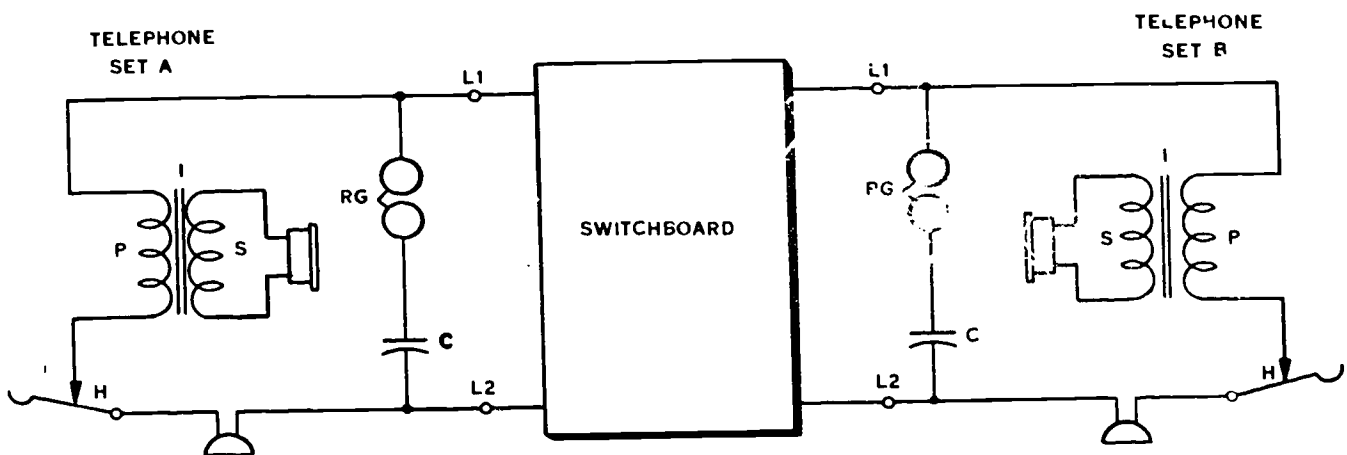

Figure 6-11. Basic circuit of common-battery telephone system.
Basic common-battery circuit. The basic circuit of a common-battery system is shown in figure 6-11. In this circuit, each telephone is equipped with an induction coil (I), a hookswitch (H), a capacitor (C), a ringer (RG), a transmitter, and a receiver. When the hookswitch is in the position shown, current flows from the switchboard battery through telephone line (L1), the primary winding of induction coil (I), the hookswitch, and the line L2 back to the switchboard battery. With the circuit in this condition, sound waves entering the transmitter varies the line current from the telephone to the central office. Furthermore, if the telephone sets are connected through the switchboard, the sound waves entering the transmitter of either telephone will be heard in the receiver of the other telephone set. The circuitry shown in figure 6-11 may be considered in three parts: the primary, or transmitter, circuit; the secondary, or receiver, circuit; and the ringing circuit.
b. Secondary circuit. As shown in figure 6-11, the secondary circuit consists of the receiver connected in series with the secondary winding of the induction coil. As was explained for the local-battery system, variable DC in the primary winding of the induction coil induces an alternating current in the secondary winding and receiver. Thus, when either transmitter is spoken into in the system shown in figure 6-11, the sound is heard in the receivers of both telephones. Of course, in modern telephone systems, antisidetone circuitry is used to control the level at which the speakers hear their own voices in the receiver.
c. Ringer circuit. In figure 6-11, notice that when the hookswitch is open, the primary circuit is disconnected from the switchboard battery. In other words, the telephone primary circuit from L1 to L2 is open. The ringer circuit, however, through ringer RG and capacitor C, is still a complete path for central office ringing current. Therefore, when ringing current from the switchboard is applied to terminals L1 and L2 via the telephone line, it passes through capacitor C and ringer RG to ring the called telephone. It should be noted that capacitor C will not pass direct current—therefore, it prevents the ringer RG from shorting the switchboard battery. This is important in common-battery telephony, because without capacitor C, the telephone ringer would be a continuous drain on the switchboard battery.
Signaling the switchboard. As illustrated in figure 6-11, there is no hand generator in the common-battery telephone set. In common-battery telephony it is not necessary to use an AC ringing current to signal the telephone office. Since lifting the receiver from its cradle allows the hookswitch to complete a circuit to the central office battery, a light connected in series with this circuit at the switchboard will illuminate whenever the receiver is lifted. Thus, the operator, at a manual common-battery switchboard, is signaled by the lighting of a lamp whenever a customer lifts his or her telephone receiver from its cradle.